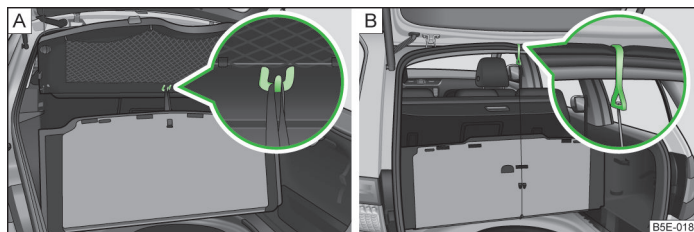

Fig. 85 Fixing the floor covering: Octavia/Octavia Estate
- Octavia: With the loop on a hook on the luggage compartment cover » Fig. 85 - .
- Octavia Estate: With the hook on the frame of the luggage compartment lid » Fig. 85 - .